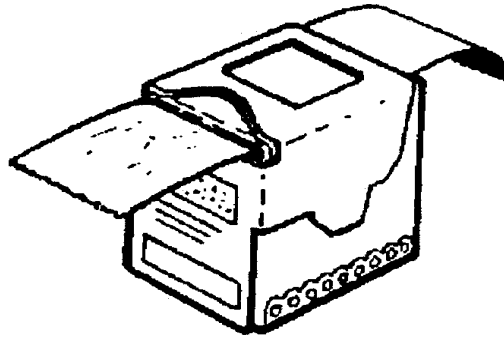

Figure 6-7. M9 Paper
c. Use M9 chemical agent detector paper (Figure 6-7) to detect the presence of liquid chemical agents. It does not detect chemical agent vapor. The paper indicates the presence of a nerve agent (G and V) or a blister agent (H and L) by turning a red or reddish color. Because of this, read M9 paper with only a white-light source. The self-adhesive M9 paper attaches to most surfaces. When attaching it to clothing, place it on the upper portion of your right arm, left wrist, and either your left or right ankle to allow adequate representation of contamination encountered. When placing it on a piece of equipment, ensure the location is free of dirt, oil, and grease, and place the paper where it will not be stepped on. It is advised that M9 paper that has been placed on equipment be removed before DS2 is sprayed over it; if that is not done, it becomes almost impossible to remove the paper. The M9 paper is usable in any weather, in temperatures above 32F (0C). However, exposure to extremely high temperatures may produce false readings. Scuffs, certain types of organic liquids, and DS2 also cause false readings. DS2 turns M9 paper blue. If the paper shows spots or streaks of pink, red-brown, red-purple, or any shade of red, assume it has been exposed to a chemical agent. See TM 3-6665-311-10 for further information.